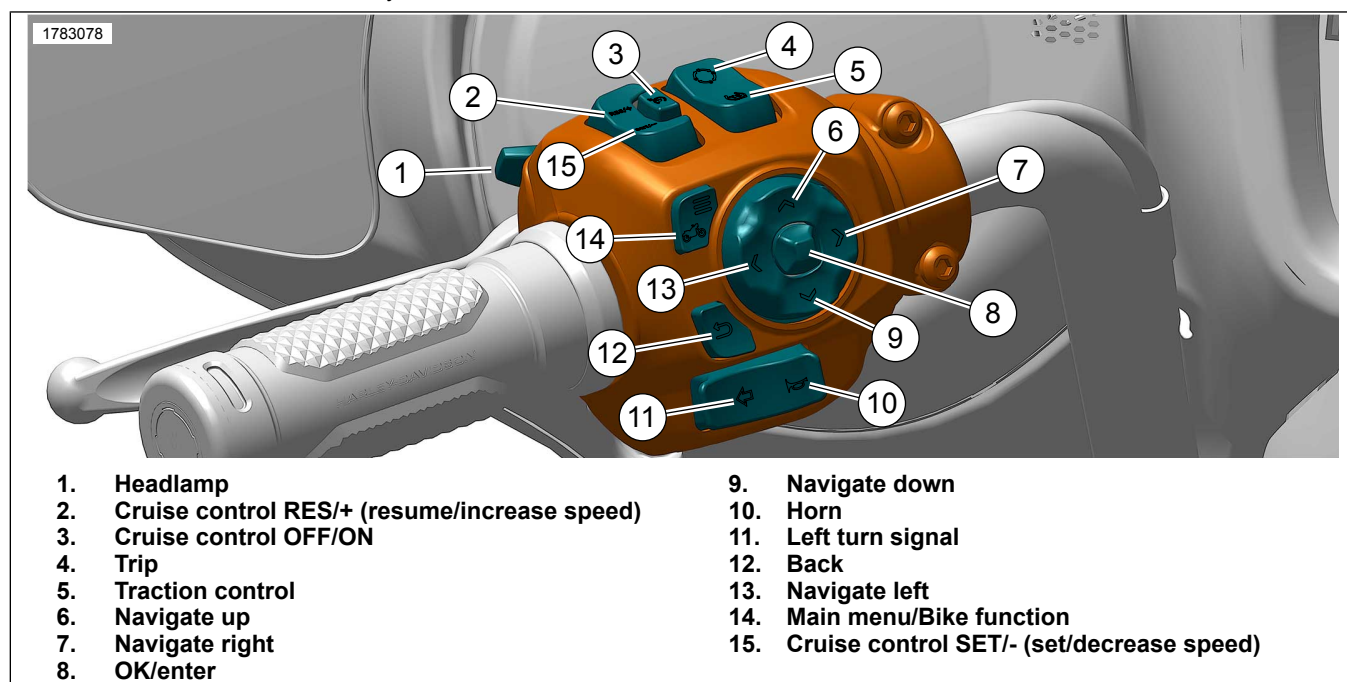

Figure 2. Left Hand Control Module (LHCM)
1. See Figure 2. Models with an Infotainment Control Unit (IFCU):
- f. Open vehicle functions (14) from Left Hand Control Module (LHCM).